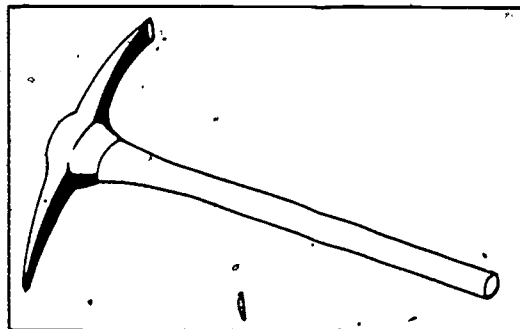

Figure 3-47. Earth pick.
*Earth pick.* The earth pick, illustrated in figure 3-47, is used to loosen soil that has been packed so hard that it cannot be dug with a shovel. The head of the pick has two points: one is rectangular in cross section and tapered to a point, and the other point forms a narrow chisel-like blade. Picks are usually sharpened in the shop on a bench grinder, but on the job they may be sharpened with a coarse file.